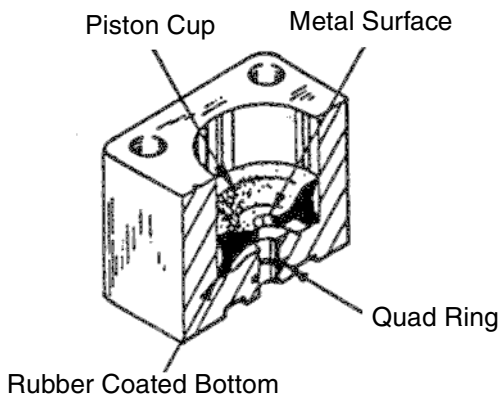

Figure 1-8 Position of Quad Ring In its Groove
3. Place the O-ring (12 – large valve only) into its groove on the bellows and seal disc (11).
4. Place the washer (10) into the bellow and over the seal disc threaded stud (11; 13) with the stepped side facing up. This washer is used to center the spring on bellows assemblies without a boss machined into the seal disc.
5. Take the valve stem (8) in hand, apply Loctite[®] 242 adhesive to the first three female threads.
6. Thread the valve stem (8) onto the threaded rod of the seal disc (11) by turning the stem clockwise until finger-tight.
7. Place the spring (9) over the stem so it is seated on the special washer (10). This washer is required only in older model valves.
9. Lubricate the quad ring (7) liberally with Sta-lube 3120 grease. The piston cup (5) has a rubber-coated bottom surface and a metal upper surface (Figure 1-8). Apply Sta-lube liberally to the side walls and the rubber-coated bottom surface, leaving the metal top surface dry.